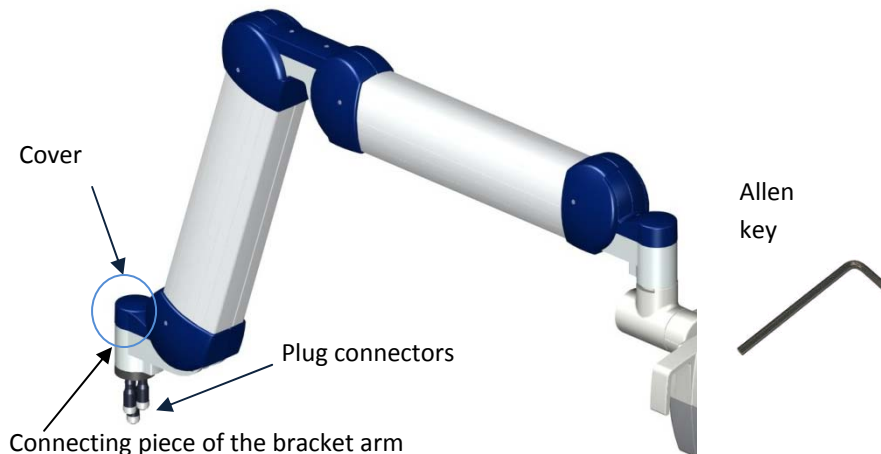

Figure 12: Bracket arm with 3 protruding plug connectors
b) The blue cover at the end of the bracket arm (see figure 12) is removed using the size 2.5 Allen key. Ensure that the bracket arm is in the extended position when removing the cover.